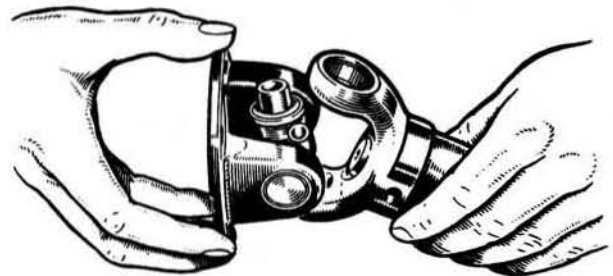

Fig. 7.14. Separating the yokes
- 6 The splined sleeve yoke or flange can now be separated from the shaft yoke as depicted in Fig.7.14.